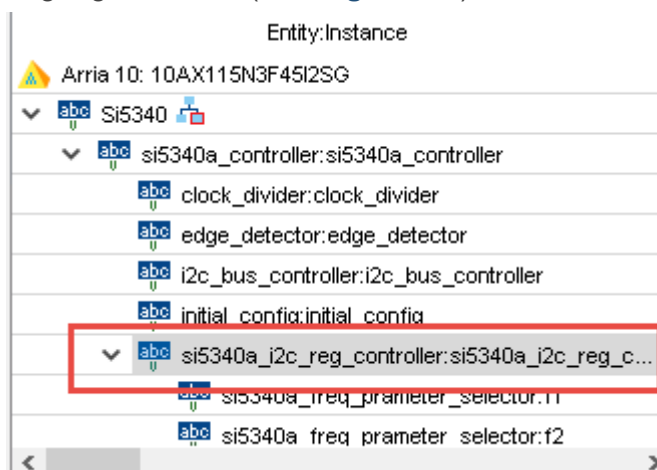

Figure 5-8 Sub-Module file “si5340a_i2c_reg_controller.v”
4. Open Si5340 control IP sub-module “si5340a_i2c_reg_controller.v” as shown in **Figure 5-8**, refer Design Report parameter to modify sub-module corresponding register value (See **Figure 5-9**).